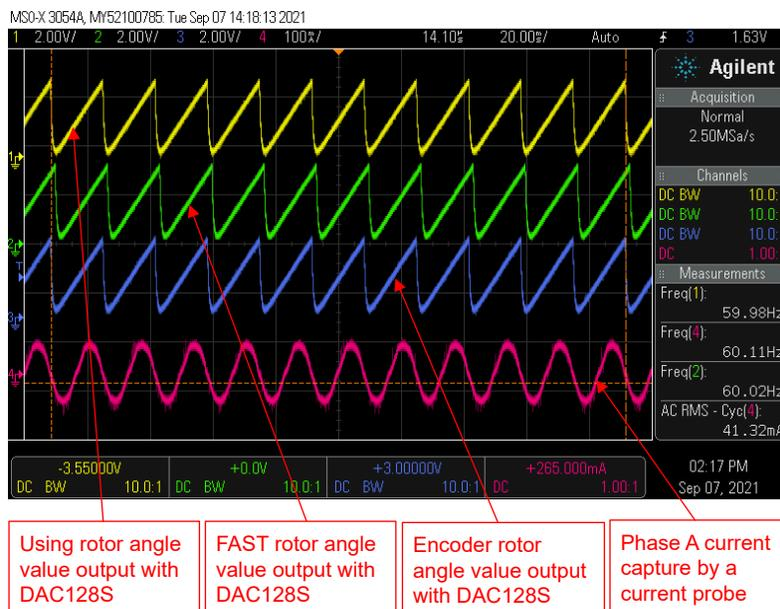

Figure 3-53. Build Level 4: Rotor Angle with eSMO and Encoder, Phase Current Waveforms at Forward Rotation
- The estimated rotor angles from eSMO and Encoder are shown in Figure 3-53. The motor is running with eSMO at forward rotation by setting motorVars_M1.speedRef_Hz to a positive value.
Use DAC128S085EVM with an oscilloscope to monitor rotor angle of the motor from the eSMO estimator and encoder, and a phase current of the motor as shown in Figure 3-53 when the motor is running at forward rotation by setting motorVars_M1.speedRef_Hz to a positive reference value.